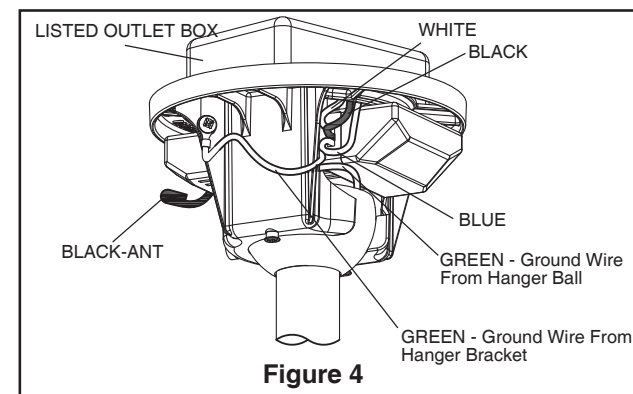

Figure 4
3. After connections have been made, turn leads upward and carefully push leads into the outlet box, with the white and green leads to one side of the box and the black leads towards the other side. The wires should be spread apart with the grounded conductor and the equipment-grounding conductor on one side of the outlet box and the ungrounded conductor on the other side of the outlet box (Figure 4).